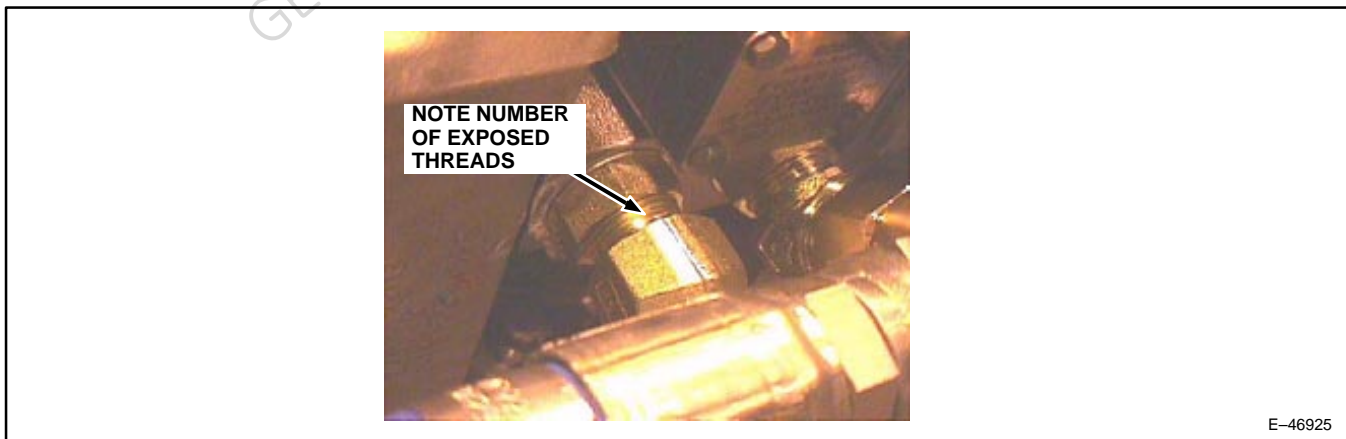

Figure 36. Proper Fitting Installation.
- e. Install the new O-ring on the machined surface between the two (2) threaded portions, next to the back up washer.
- h. After torquing the elbow fittings, inspect each fitting to determine the number of threads exposed behind the jam nut. There should be less than three (3) threads exposed. If three (3) or more threads are exposed, remove the fitting and correct (Figure 36).